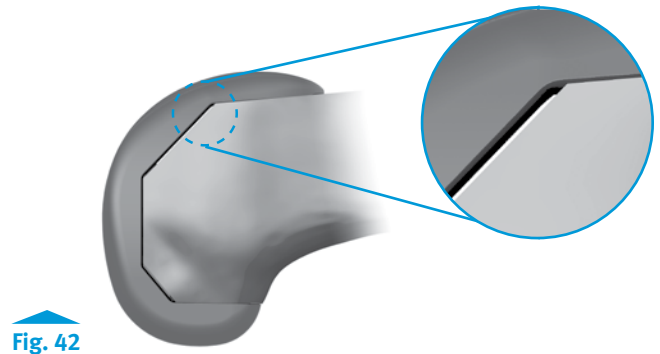

Fig. 42
- The Trabecular Metal material extends above the femoral implant rail by approximately 0.5mm and has a dark color, which may appear not fully seated. If no light is visible beneath the distal surface and the bone, the implant is fully seated. Small gaps between the Trabecular Metal surface and the chamfer bone cuts may be visible and are acceptable (Fig. 42).